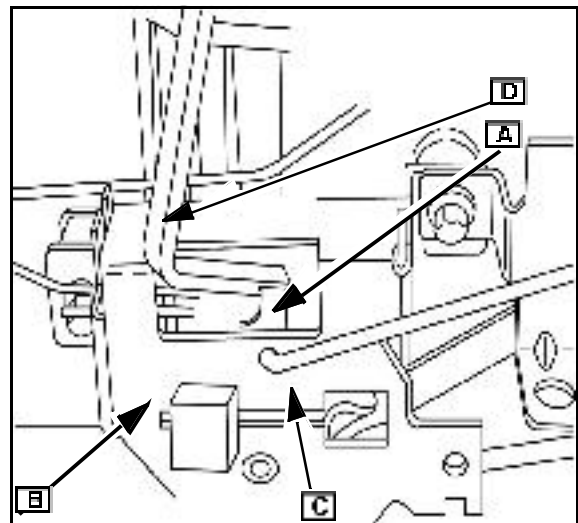
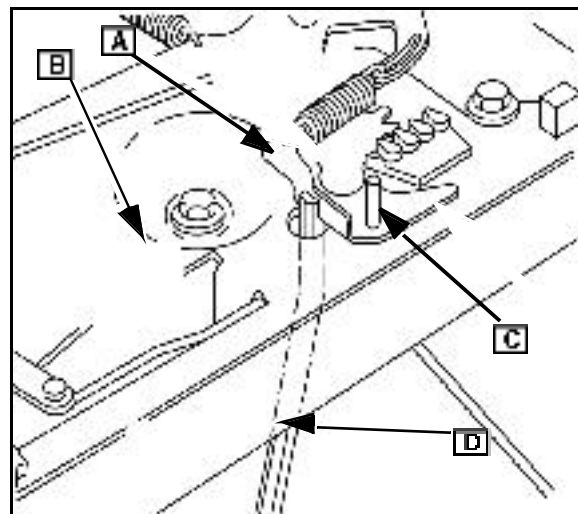

Fig. 37
Fig. 38
2. Align holes in the governor control lever gear (A) and governor control plate (B) Fig. 37 or Fig. 38).
3. Insert 0.125 in. (3.2 mm) diameter rod ([C] Fig. 37 or Fig. 38).